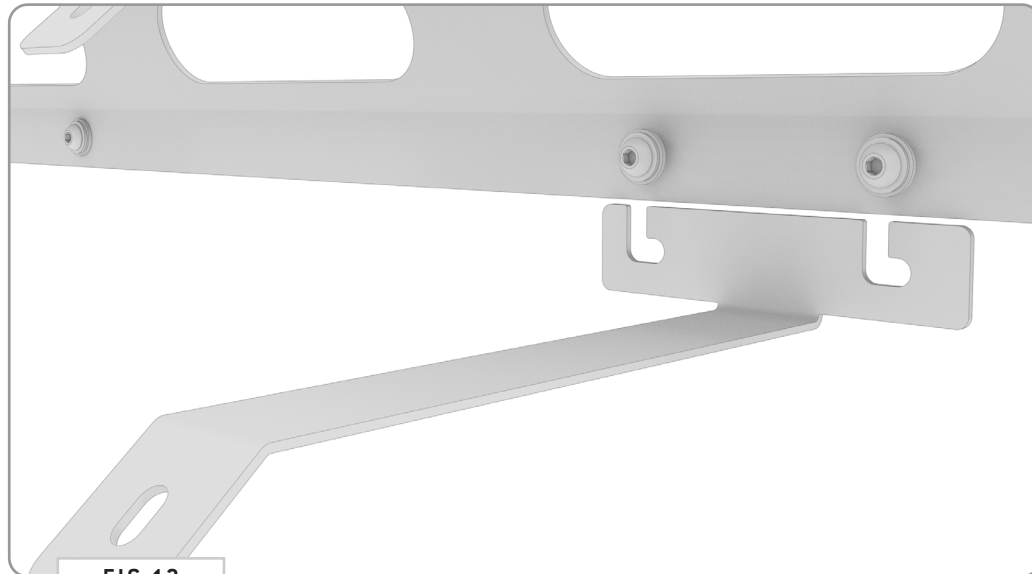

FIG 12
**4.3 Center Fairing Bracket:** Slide in the **Center Fairing Bracket** into place along the two center-most **1/4-20" Button Head Screws** of the **Crossbar Fairing Bracket** as shown in FIG 12.